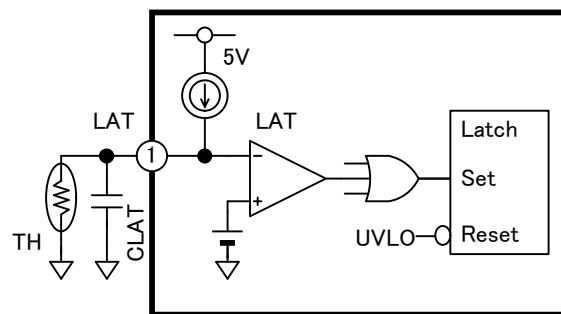

Fig.13 Overheat protection function using a thermistor
The LAT pin is equipped with a latch shutdown function. (See Fig.13)
(See Fig.13, P23 9-(4) Lat pin)